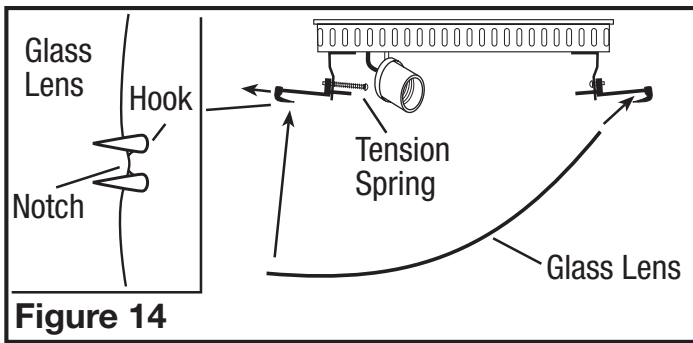

Figure 14
- AKLC70DW:** Remove glass light lens from grill by pulling the tension springed hook outward and sliding the glass out of the hooks (Figure 14).